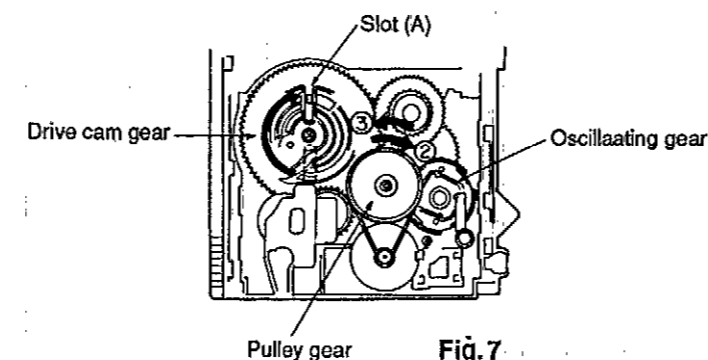
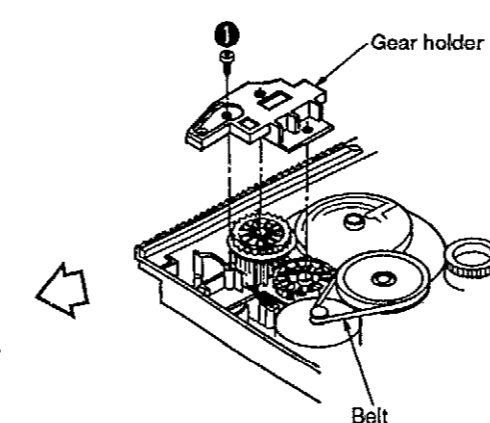

Fig.7
Fig.6
10. Install the gear holder and secure it with a screw. (See Fig.6.)
11. Install the belt. (See Fig.6.)
12. Rotate the pulley gear in the direction of arrow ② and then rotate the pulley gear to full position in the direction of arrow ③ when the oscillating gear stops.
13. Rotate the drive cam gear so that the slot (A) of the drive cam gear is put into a given position as shown in fig. 7.